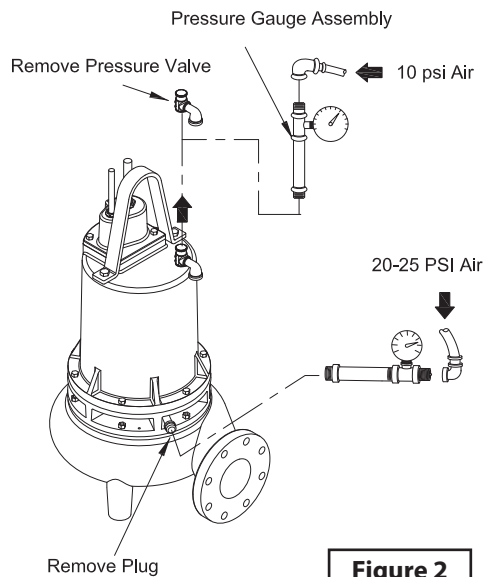

Figure 2
Motor Housing - Oil should be at normal level. Remove pressure valve (10) from motor housing (3). Apply pipe sealant to pressure gauge assembly and tighten into hole (See Figure 2). Pressurize motor housing to 10 P.S.I. Use soap solution around the sealed areas above the oil level and inspect joints for "air bubbles". If, after five minutes, the pressure is still holding constant, and no "bubbles"/oil seepage is observed, slowly bleed the pressure and remove the gauge assembly. Replace oil. Leek must be located and repaired if pressure does not hold.